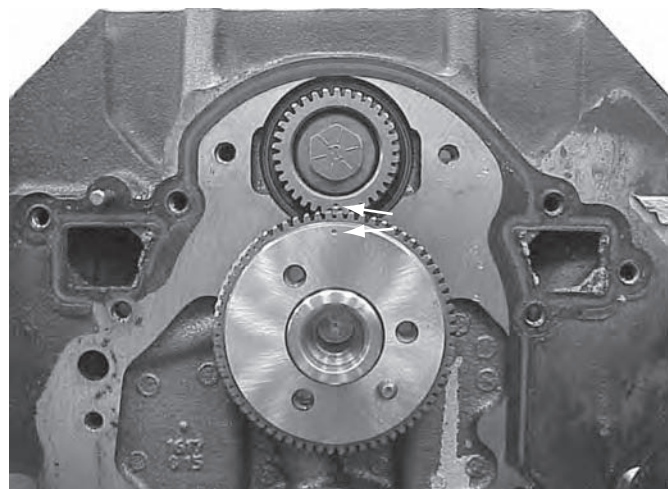

FIGURE 9.74 Typical balance shaft timing marks. The timing chain and sprockets are phased to this shaft. (Courtesy of Tim Gilles)
- Some engines use a balance shaft (see Chapter 12). It is crucial that the balance shaft be timed correctly. **Figure 9.74** shows typical balance shaft timing marks.